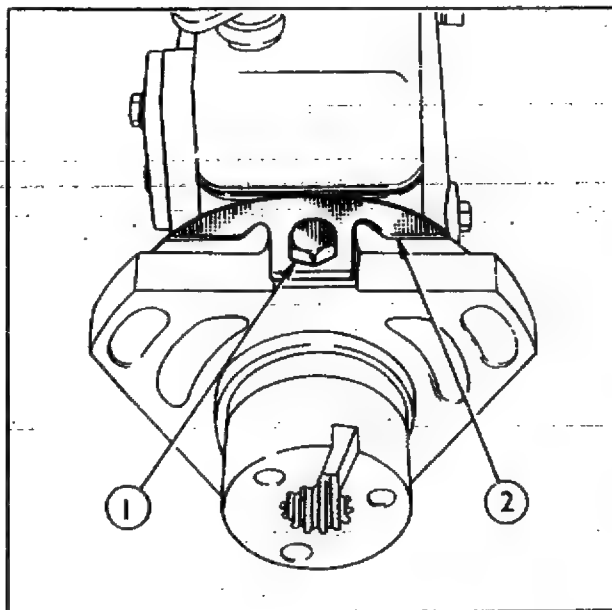

Fig. 93 1 Timing Locking Bolt
4. Substitute the timing locking bolt for the sealing bolt and tighten to 2.8 Nm (0.29 kgf m or 25 lbf in) torque. Lock the pump in the timed position. The bracket attached to the locking bolt masks the two upper holes in the pump mounting flange, thus ensuring removal of the locking bolt on assembling the pump to the engine, refer to Fig. 93.